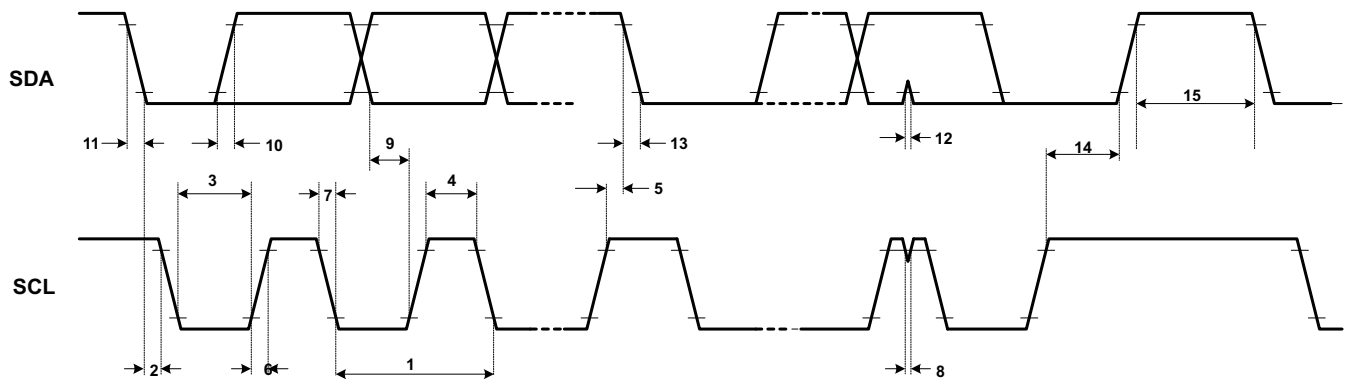

Figure 3. Serial Communication AC Timing (I2C Interface)
**I2C INTERFACE SWITCHING CHARACTERISTICS**(1) (2)VBAT = VBATP = 6 V to 18 V, TJ = -40°C to 150°C (unless otherwise noted) (see Figure 3)